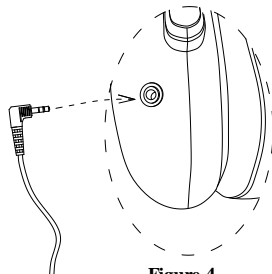

Figure 4
7. MP3/phone function: Insert your mp3/phone or music plug (3.5mm plug) into the jack on the side of right earcup as indicated. See figure 4.